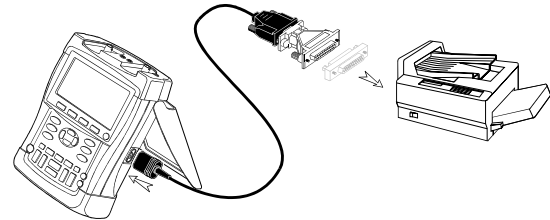

Figure 36. Connecting a Serial Printer
- The Optically Isolated RS-232 Adapter/Cable (PM9080, optional) to connect a serial printer to the OPTICAL PORT of the test tool. (See Figure 36.)